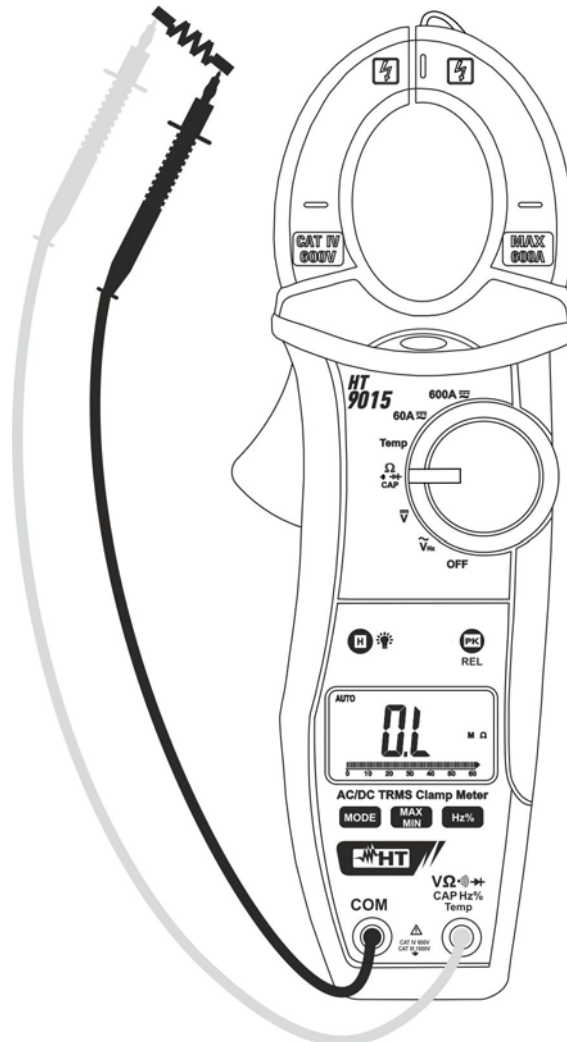

Fig. 5: Taking Resistance measurement
2. Insert the red test lead plug into **VΩ→CAPHz%Temp** jack and the black test lead plug into **COM** jack (Fig. 5)